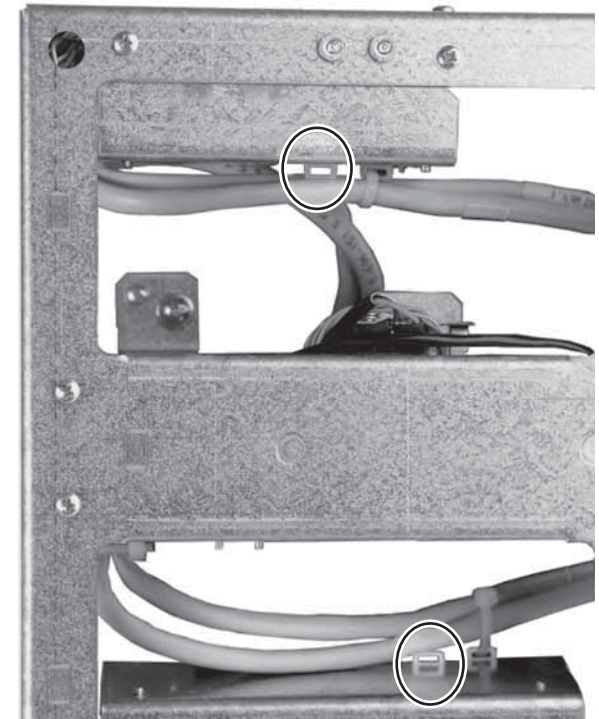

Figure B-2 — Cable tie-downs inside the HSA (seen from underneath)
- b. Reach through the cable access holes on the underside of the HSA and cut the tie wraps that route the AAP cables out of the way (figure B-2).